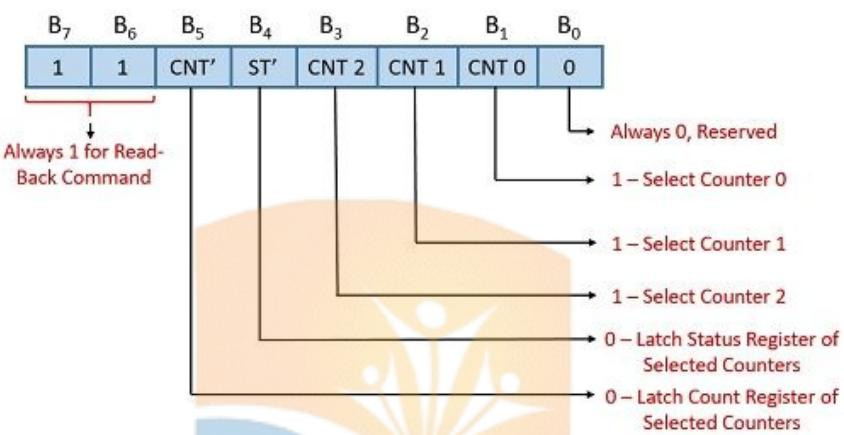

Fig. 16.3 Format of read-back control word of 8254 timer
- Unlike 8253, there is a separate read-back control word format in 8254 through which the count value is latched. The figure 16.3 shows the format of the read-back control word of 8254: